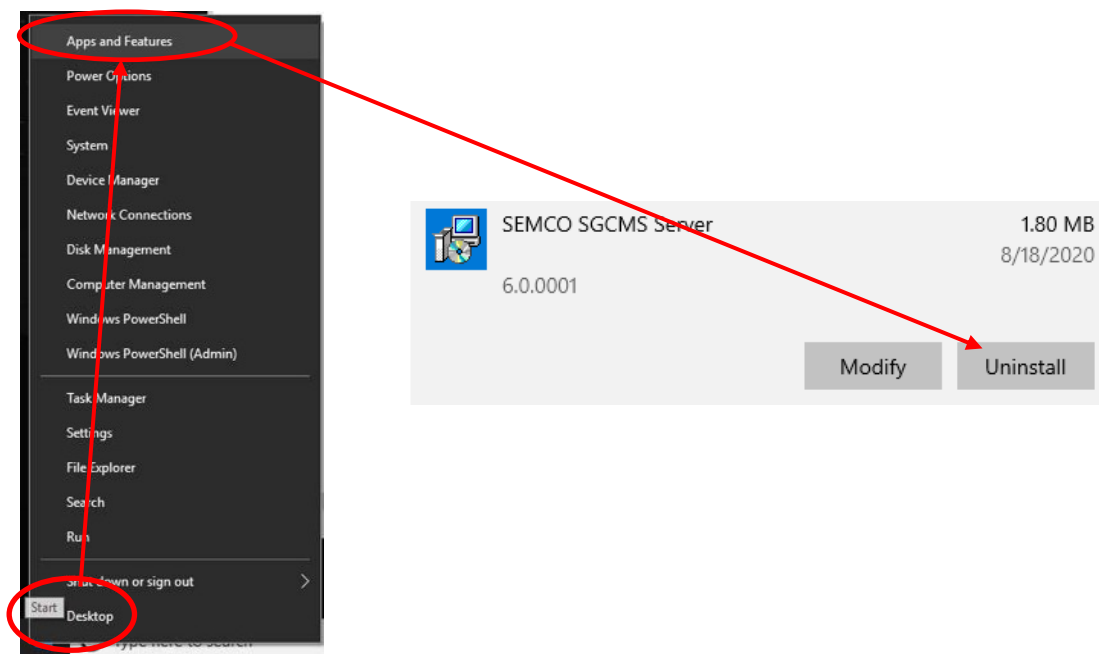

Figure 3-2
Step 1 - If the SGCMS Server program has been previously installed, Uninstall the software before continuing as shown in Figure 3.2. Right-Click on **Start > Apps and Features**, find and click on the program and then select **Uninstall**.